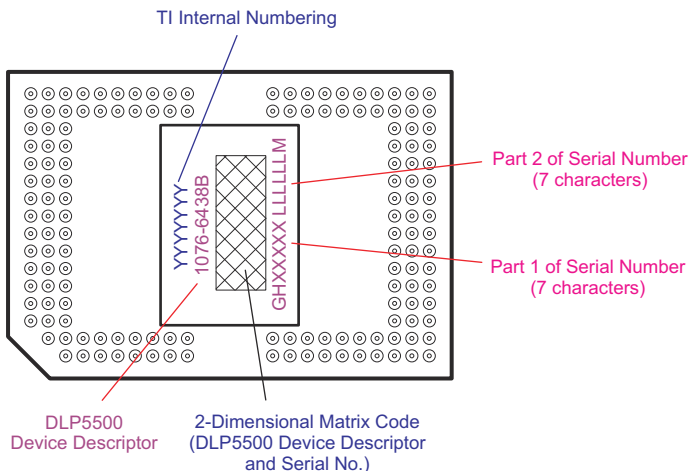

Figure 11-1. DMD Marking (Device Top View)
The device marking consists of the fields shown in Figure 11-1.
- Changed DMD Marking Image Object for 図 11-1 36